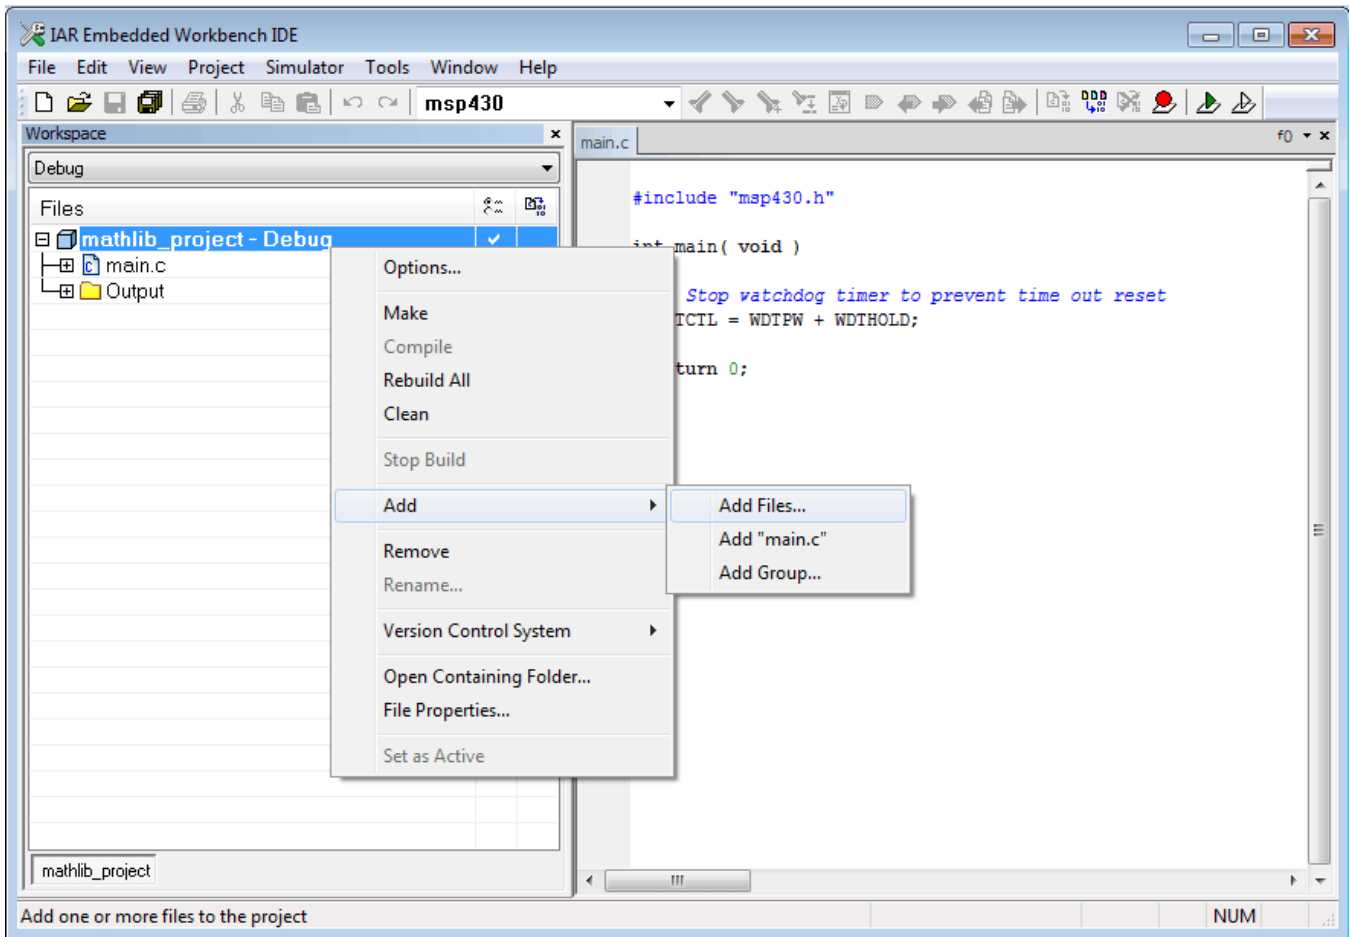

Figure 8. Add Files to Project
- Right click the project and select Add Files (see Figure 8).